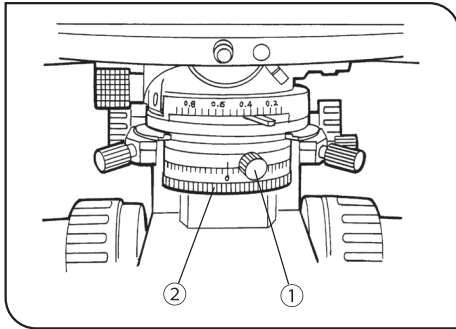

Fig. 30
(Fig. 30)
2. Insert the rotatable analyzer into the light path and set vibration direction scale at the  $0^\circ$  position. Clamp with the clamping knob. (Fig. 30)
4. Loosen the polarizer clamping knob ①. Rotate the polarizer rotation dial ②, until complete extinction is obtained. At this point, tighten the clamping knob ①. (Fig. 30)